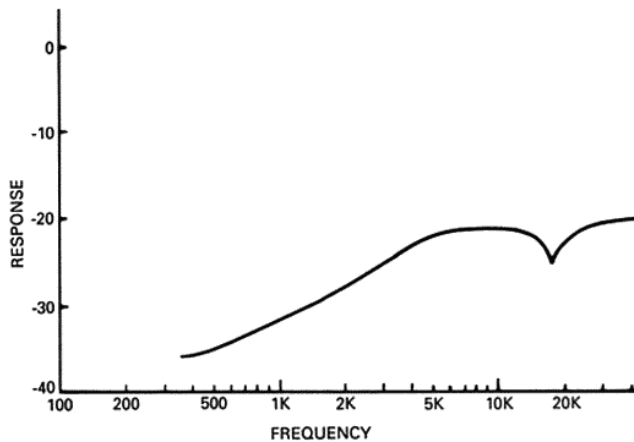

Figure 6-11. Crosstalk from Audio to Time Code Channels
2. Record a 0 VU signal on an audio track, and adjust semi-fixed resistors several times as explained below, until signal whose characteristics are shown in Figure 6-11 appears at TP-2 on the Time Code Amp PCB.